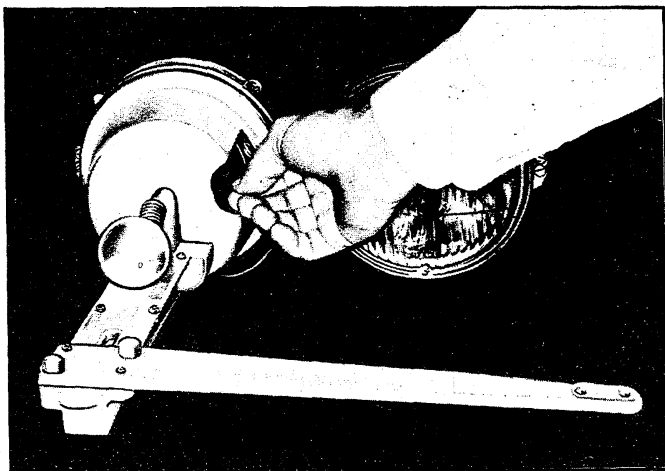

Fig. 6 - Removing Aimer from Headlamp
10. Remove the aimers by pulling on the suction cup tabs through the openings in the aimers (fig. 6).